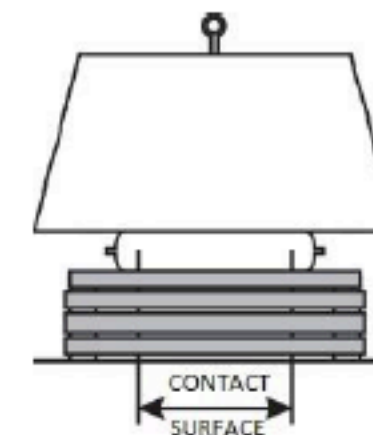

Figure 9 – Partial Fill / Contact Surface
5.4.2 During the inflation, as the air bag fills and develops a spherical shape (see Figure 9), the air column and lifting height are increasing, while the surface contact between the air bag and object is decreasing. This will result in less lifting force as the height increases.